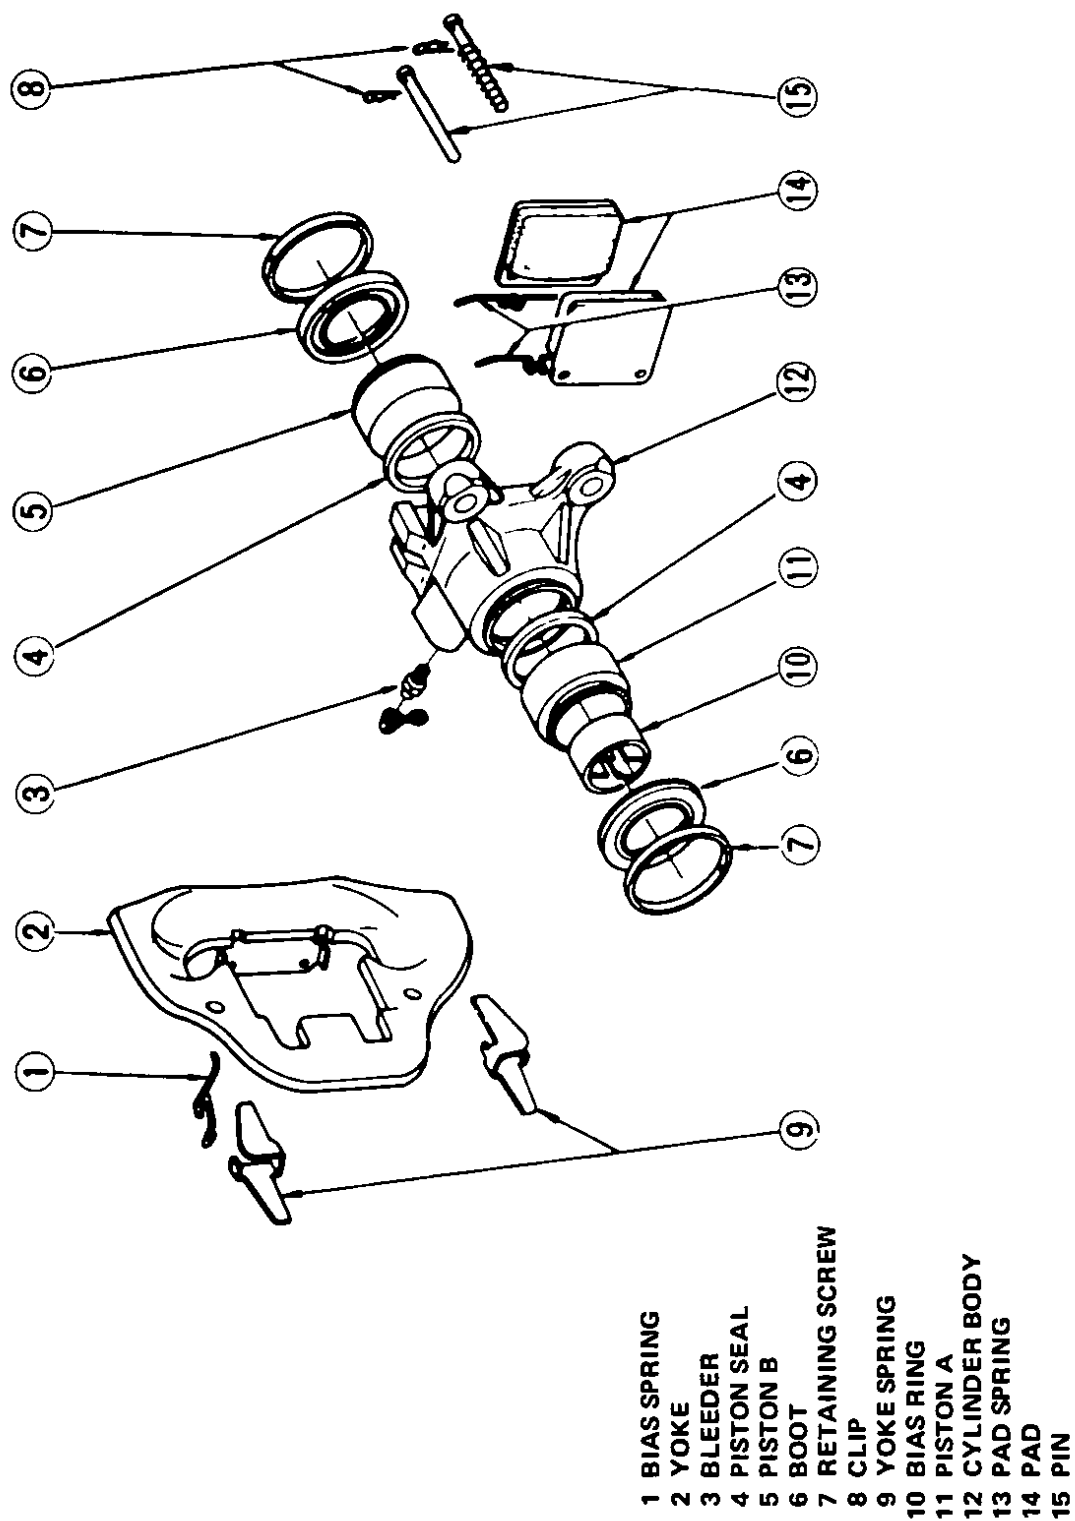

Fig 107 Front brake – Models B210 and 610
- 2 Remove the clips and pull out the pins, extracting coil spring and pad springs by hand, Fig. 107.